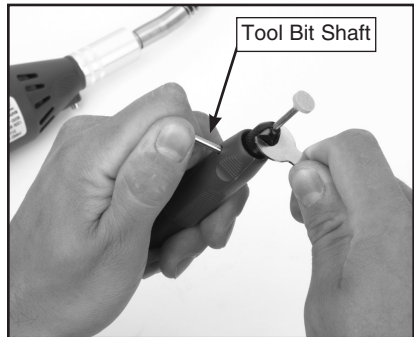

Figure 4. Tightening the flex shaft collet.
7. Insert the shaft of a tool bit into the hole shown in **Figure 4** and tighten the collet. Note: *Hold the flex shaft firmly when starting the rotary mini grinder.*